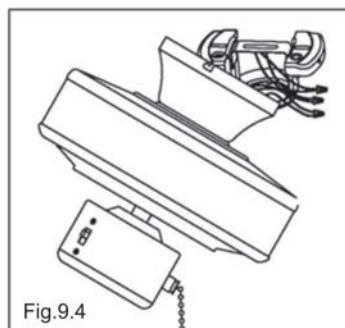

Fig.9.4
4. Lift the fan assembly up and connect the wires from fan to the wires from ceiling. (Fig. 9.4)